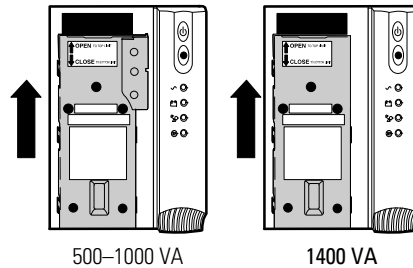

Figure 21. Removing the Battery Cover
2. Slide up and remove the metal battery cover (see Figure 21).